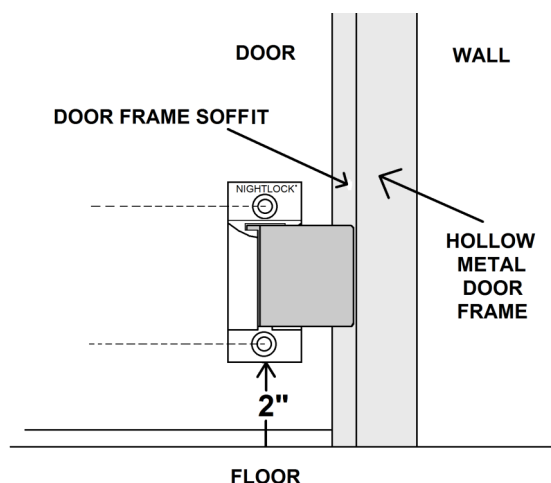

FIG. 2
Step 2. Drill 1/4" Dia. holes completely through door, from the inside, then from the outside, drill with a 3/8" Dia. drill bit, almost all the way back through, deep enough to accept female portion of architect bolt. (FIG. 2)